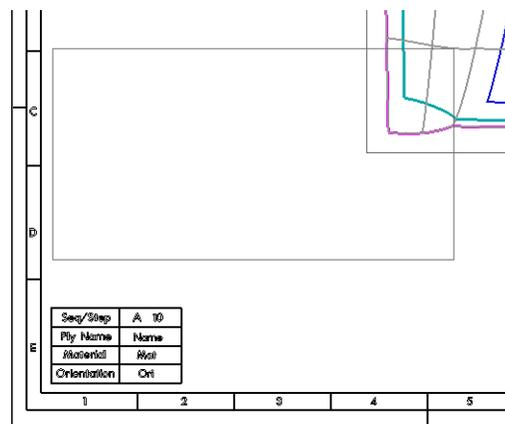

Figure 8–25
28. Place the view as shown in Figure 8–25 and press <Esc> to cancel the projection view creation.